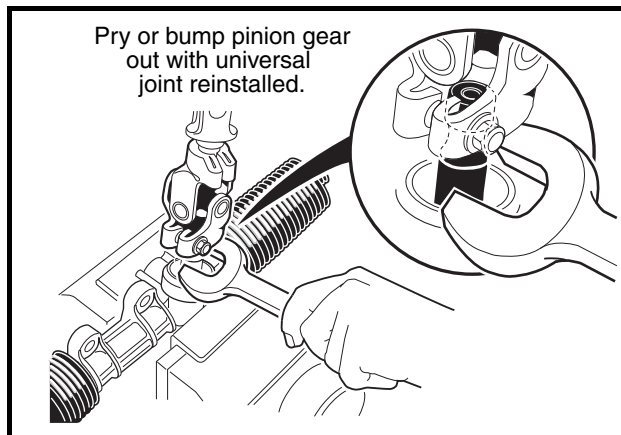

Figure 7-10 Remove Pinion from Housing
10. Install the universal joint onto the pinion and place a large open end wrench under the universal joint (Figure 7-10, Page 7-10). Use the wrench as a lever to pull the pinion from the housing.